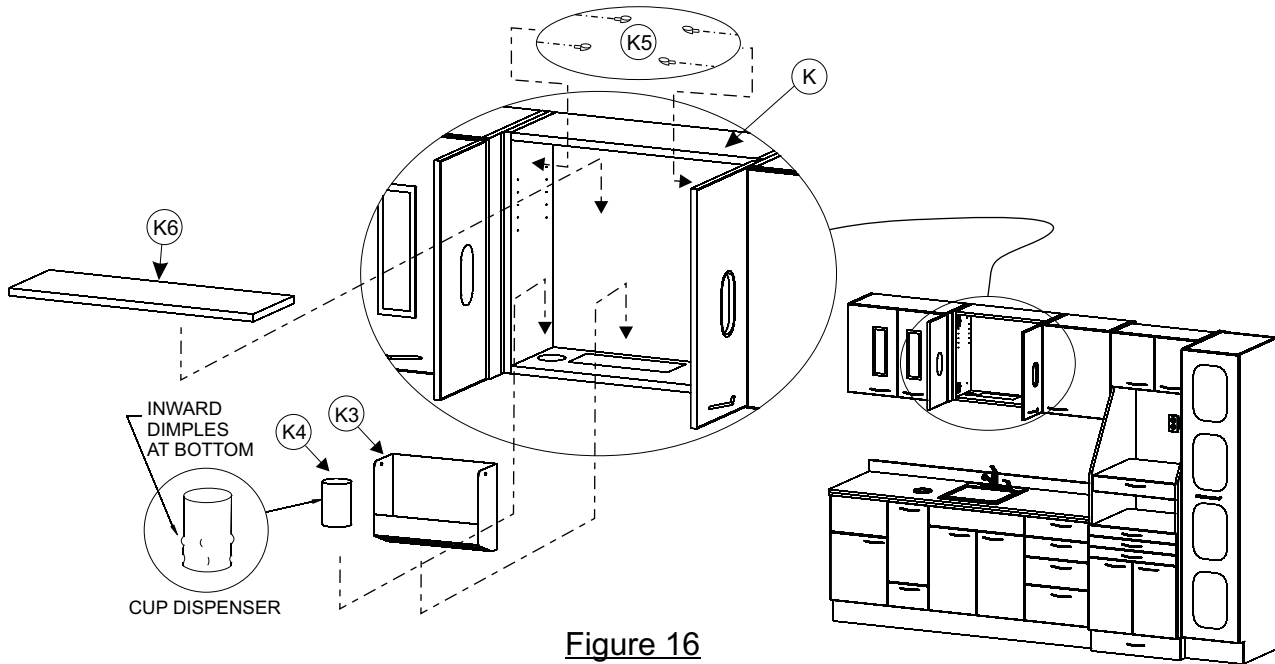

Figure 16
Insert Towel Dispenser (K3) and Cup Dispenser (K4) into proper openings in Wall Cabinet (K). Insert the Shelf Supports (K5) into the holes in the interior end panels then set the Shelf (K6) onto the Shelf Supports (see Figure 16).